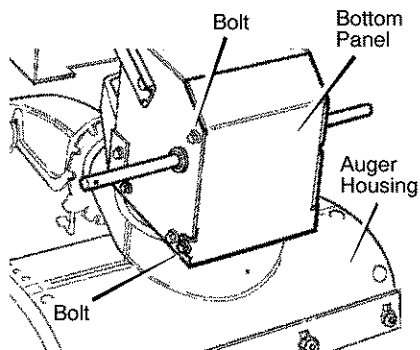

Figure 19
2. Loosen the **bolts** on each side of the **bottom panel** (see Figure 19).
- Install the **bottom panel** (see Figure 19).
13. Install the **bottom panel** (see Figure 19).